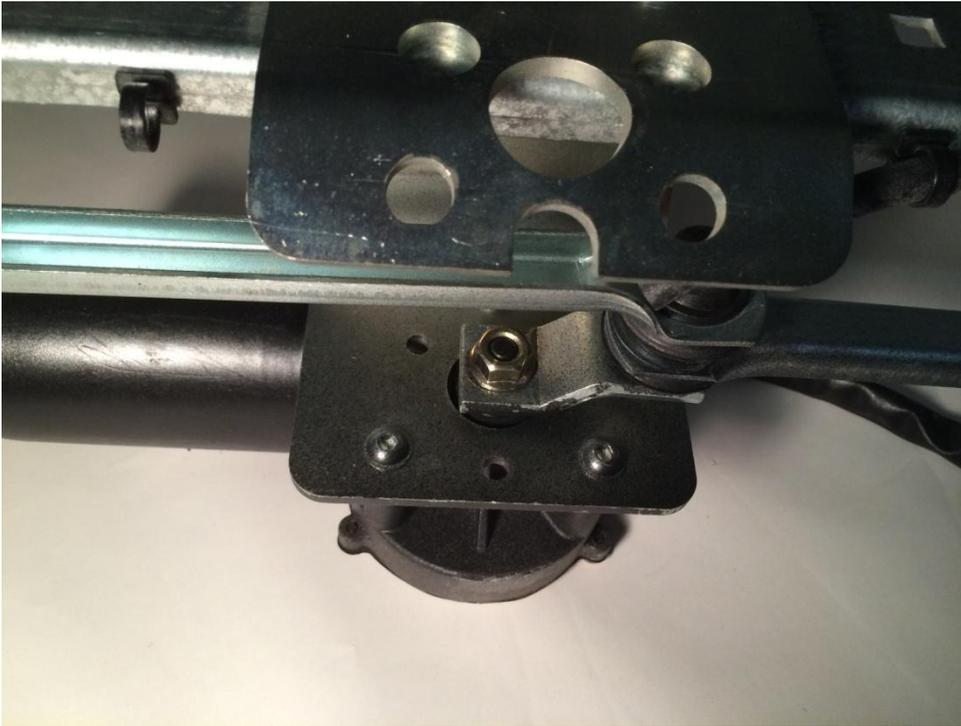

Fig. 4 Correct park position shown
4. Reinstall the crank arm onto the motor shaft making sure it is pointing horizontal towards the driver's side. Spin the nut down by hand as tight as possible (fig. 4).